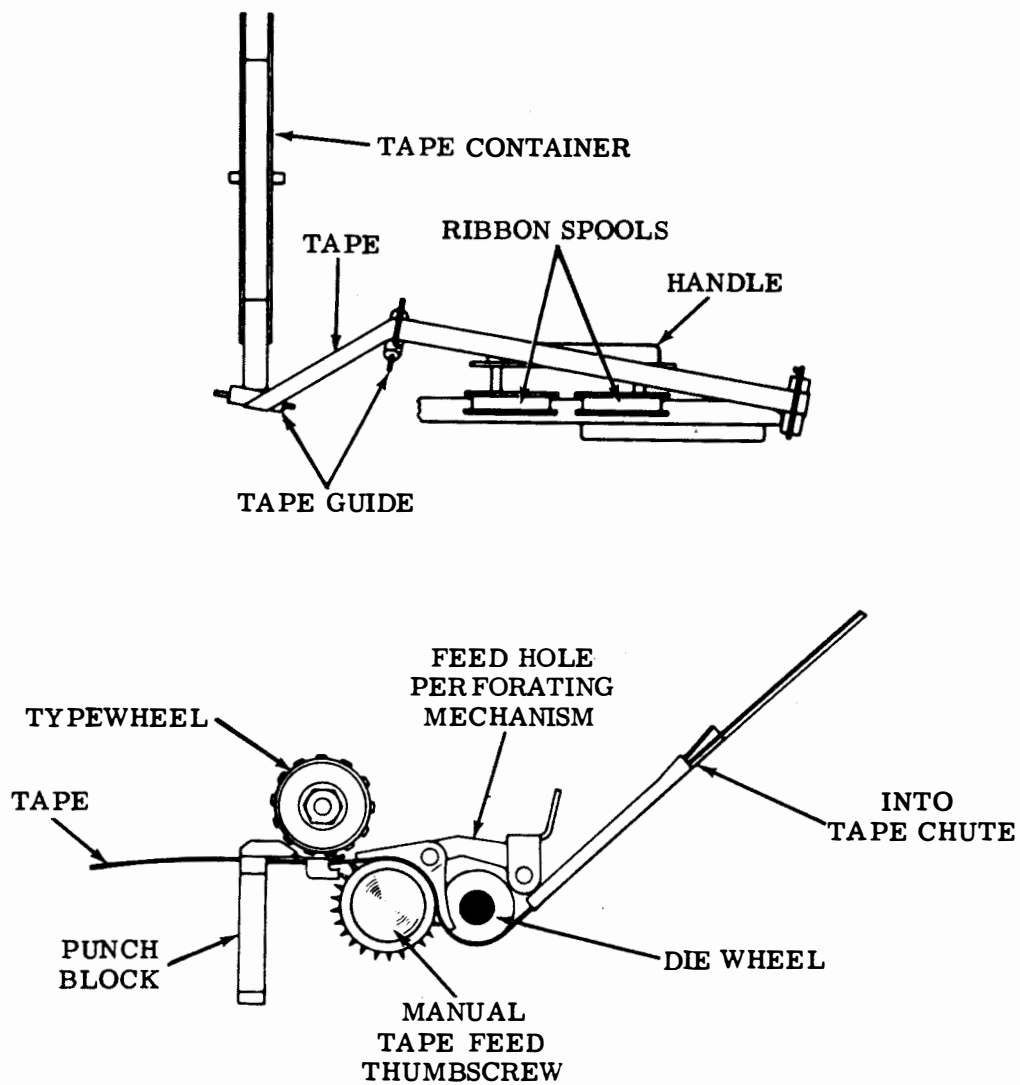

Figure 8-8. Path of Tape
- (1) Thread the tape according to figure 8-8.
- (2) Threading is identical for all units within the typing reperforator mechanism, but the path from the tape container is adapted to the particular unit. The tape should feed smoothly over the approximate center of all rollers and feed without binding. Bend tape guides as necessary to meet this requirement.
- (3) All typing reperforator sets print upon and perforate standard teletypewriter tape supplied in eight-inch rolls on a two-inch spool. Remove the tape container hub from the tape container and insert it through the spool. On most units the tape feeds from right to left. However, in some receive-only